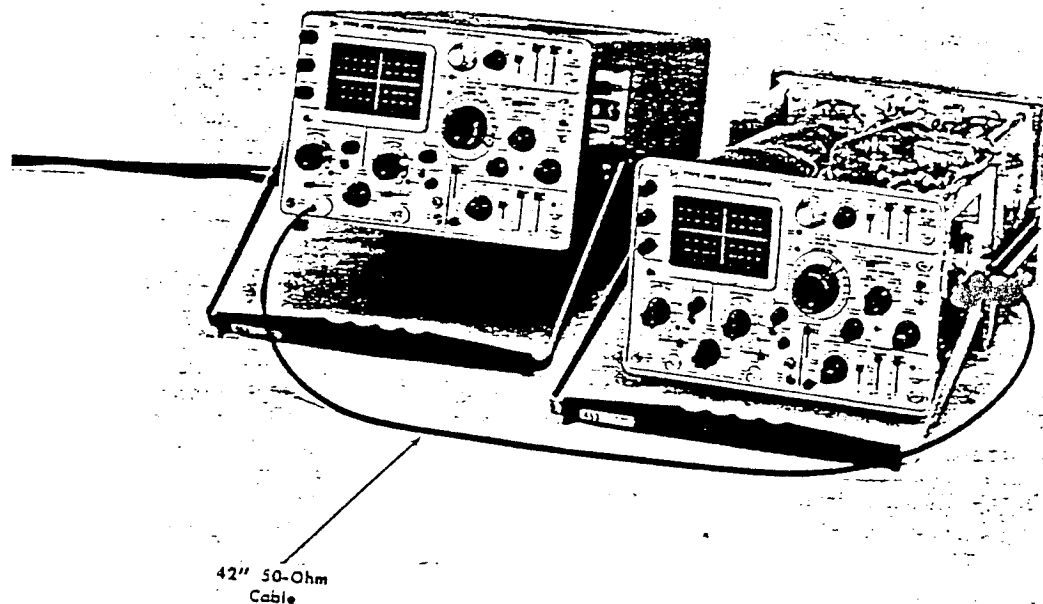

Fig. 6-62. Initial test equipment setup for step 63.
- a. Test equipment setup is shown in Fig. 6-62.